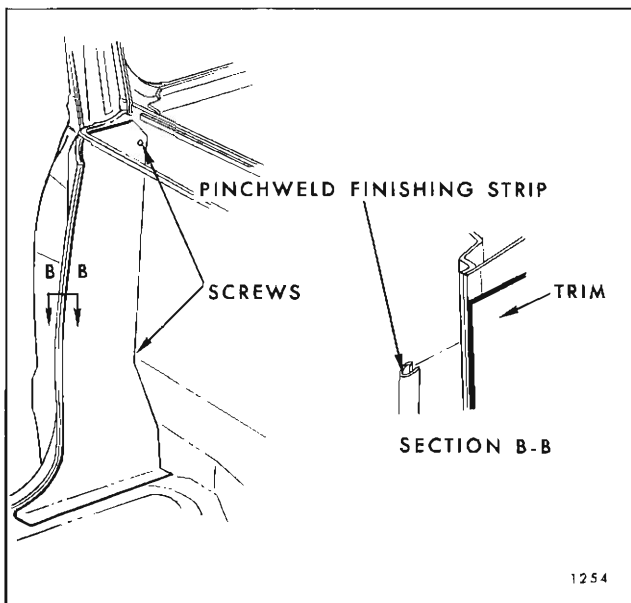

Fig. 2E5—Rear Quarter Trim Assembly
5. The 33867, 43467 and 44467 styles are equipped with hang-on type trim pads and at this point, are removed by lifting up to disengage trim pad from top of rear quarter inner panel (see View "K" in Fig. 2E4).